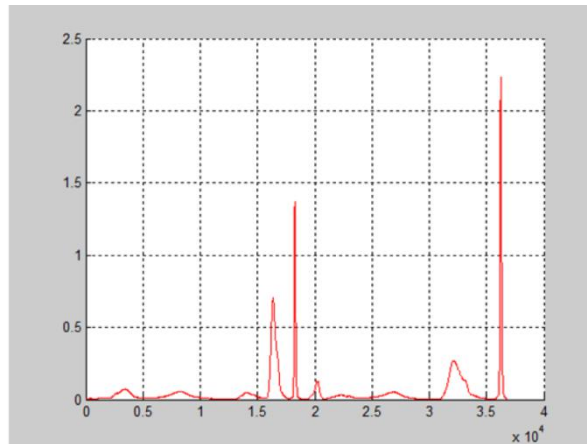

Fig.98 Spectrum Curve measured by SE1022D
4. Start the spectral measurement and collect data from the data collection platform. Then, you will get an uncalibrated spectral curve as is shown in Fig.98.